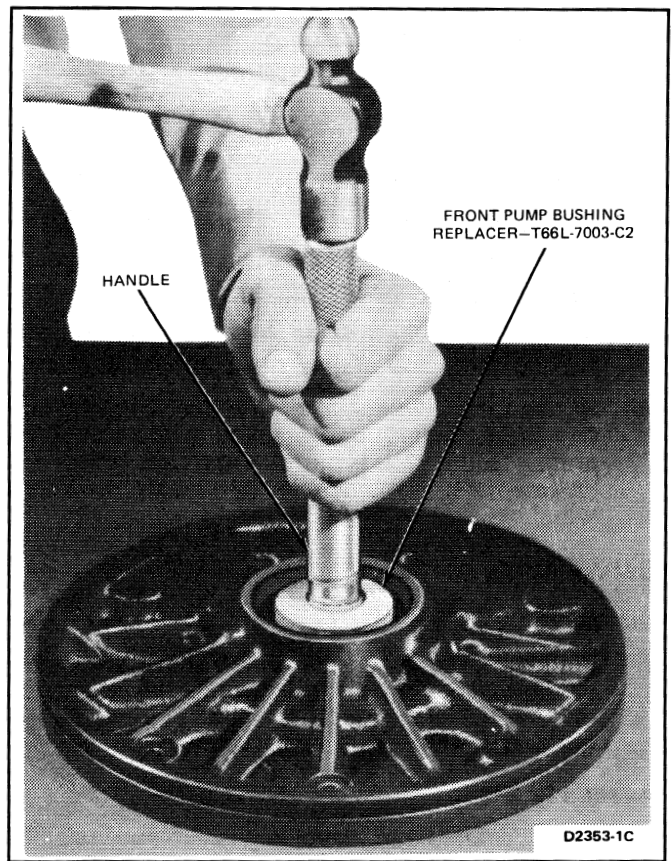

FIG. 38 Replacing Front Pump Housing Bushing
- If the pump housing bushing is worn or damaged, replace it using the handle and Tool T66L-7003-C2 shown in Fig. 38.